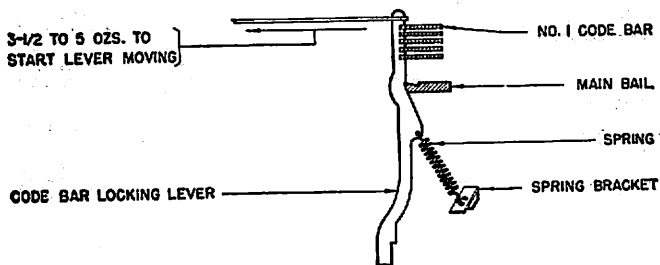

Fig. 31
4.52 Code bar lock lever spring tension shall be min. 3-1/2 ozs., max. 5 ozs. when measured as in Fig. 31 with the main bail in its highest position and the code bar bell cranks held away from the code bar locking lever.